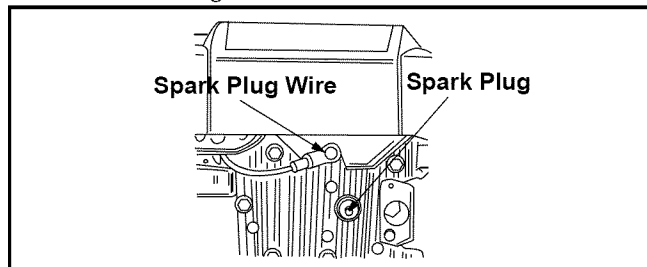

Figure 1
- Before setting up your lawn mower, disconnect the spark plug wire from the spark plug, and ground it to a bolt. See Figure 1.